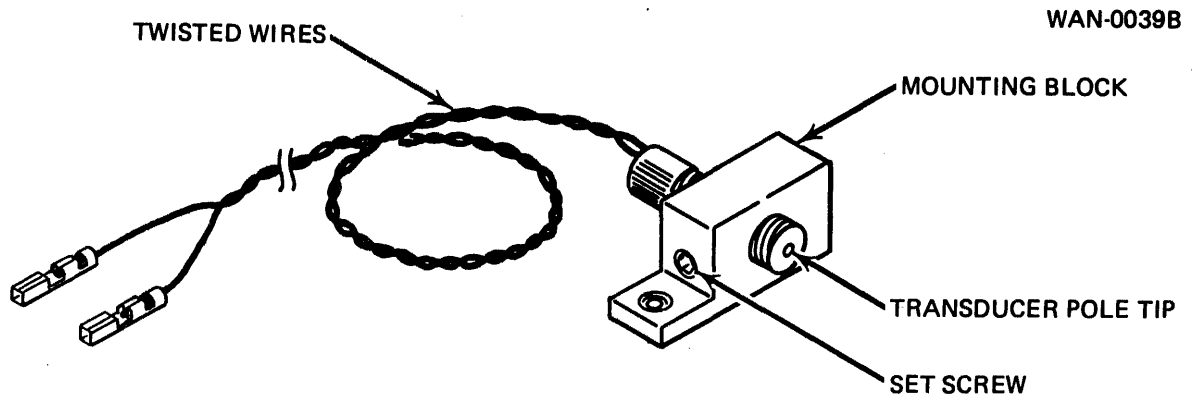

Figure 5-23. Index/Sector Transducer – Series T
5.4.3.13 Index/Sector Transducer, Series T. The index/sector transducer in the Series T Disc Drive is a magnetic pickup device mounted on top of the fixed disc cover near the spindle hub as shown in Figure 5-23.